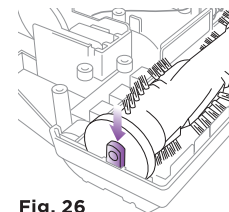

Fig. 26
- 10 Secure the left side of the rotating brush into place by sliding the end down into the slot. This end will only fit back into place one way. You may have to rotate the end piece so that it fits. (Fig. 26)